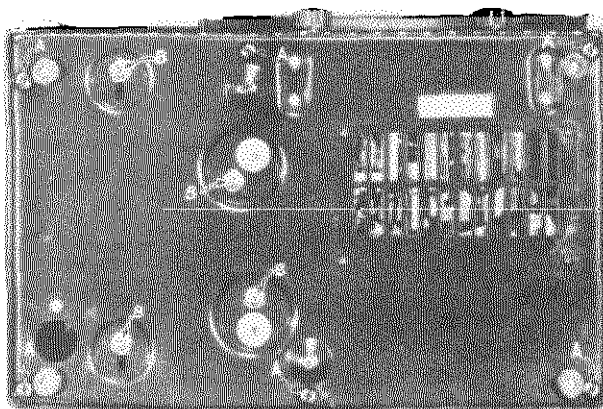

Fig. 12
Fig. 12 shows a Model 77 basic mechanism with the top cover removed for easy access to the mechanism. Fig. 12 also shows how the mechanism will look after the Model 760 has been removed from its cabinet. The top cover or the cabinet must be removed in order to make some of the adjustments or repairs mentioned in the Service Notes. To do this:
2. Use a #6 Bristol wrench to loosen the pickup arm mounting assembly screws (6F) and remove the mounting assembly (6). Lift off the Reject button (19) and felt washer.
3. Remove the 6 mounting screws "A" indicated in Fig. 12. (Caution: Remove only these screws — No others at this point.)
1. Place the cabinet over the mechanism, etc. and fasten in place with the 6 mounting screws. (Fig. 12.)
1. Remove the dial knobs by pulling them straight out, remove the mounting nuts holding the volume and tone controls in place, remove the 4 mounting screws "B" Fig. 12. Save the heavy cardboard spacers.